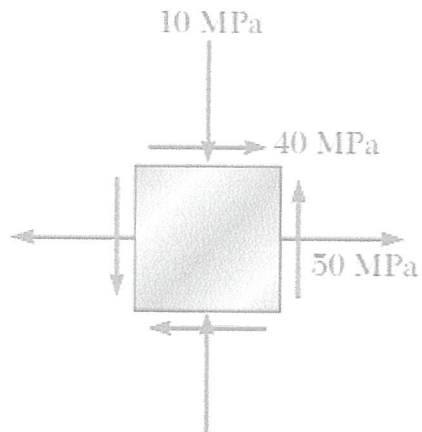

Figure Q6
- Q6** Due to an applied load an element as shown in Figure Q6 is subjected to the state of plane stress as shown.